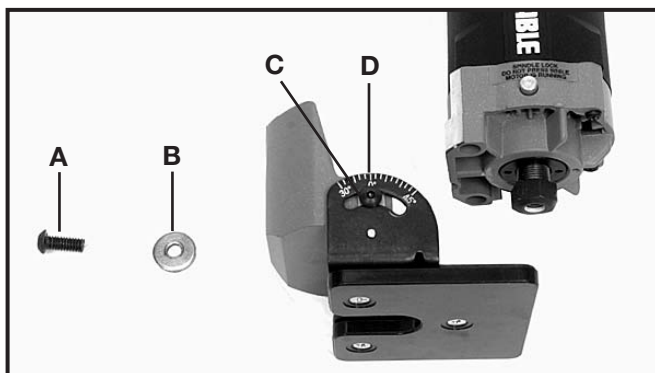

Fig. 6
Model 7319 Tilt Base Trimmer is completely assembled at the factory. The base is assembled or removed from Model 7301 motor with base locking screw (A) Fig. 6.
**NOTE:** There is a flat washer (B) Fig. 6, on the locking screw.
1. Loosen two tilt locking screws (C) Fig. 6, (one on each side of base) using wrench provided.
2. Tilt base aligning index mark (D) Fig. 6, with desired angle and tighten securely.